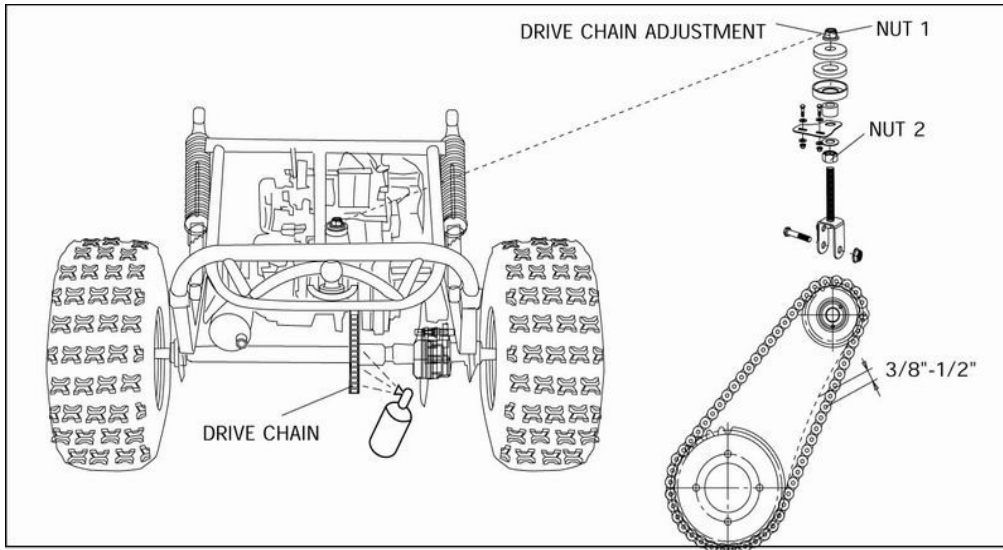

FIGURE10
To increase chain life, lubricate with a spray on dry graphite chain lubricant. (See Fig.10)
- b. Adjust Nut #2. Turn Nut #2 clockwise in 1/2-turn increments, then turn nut #1 until tight. Follow this procedure until chain is at proper tension (see Fig.10).